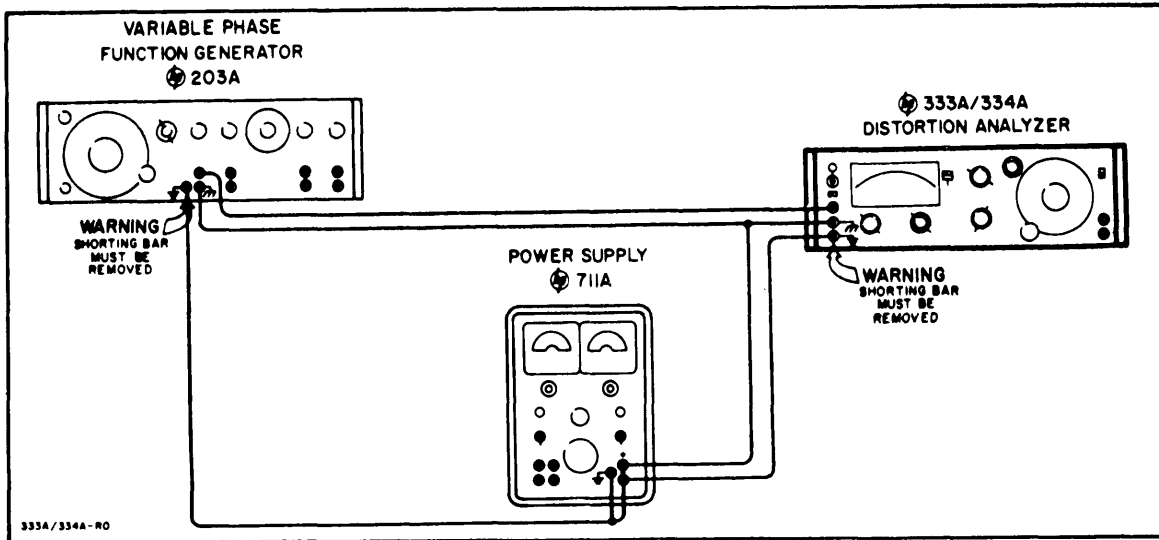

Figure 5-4. DC Isolation Check Test Setup
a. Connect 333A/334A as shown in Figure 5-4.